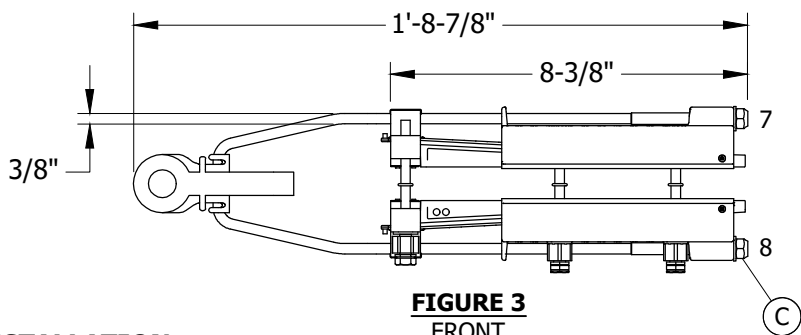

FIGURE 3
- (C) NUTS 7 AND 8 SHOWN IN **FIGURE 3** ARE INTENDED TO BE USED DURING RIGGING TO MAKE SMALL SAG CORRECTIONS ONLY AFTER CLAMP BOLTS 1 THROUGH 6 ARE INSTALLED AND SHEARED PER NOTE (B).